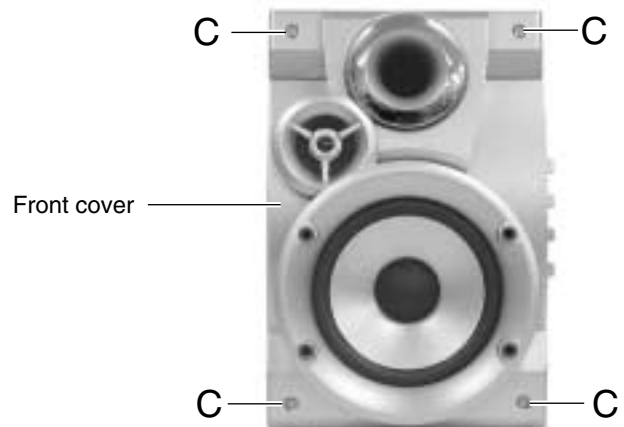

Fig.3
■ Removing the front cover (See Fig.3 to 4)